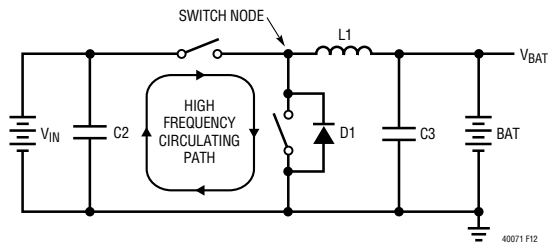

Figure 12. High Speed Switching Path
For maximum efficiency, the switch node rise and fall times should be minimized. To prevent magnetic and electrical field radiation and high frequency resonant problems, proper layout of the components connected to the IC is essential. (See Figure 12.) Here is a PCB layout priority list for proper layout. Layout the PCB using this specific order.
12. For best current programming accuracy provide a Kelvin connection from  $R_{SENSE}$  to CSP and BAT. See Figure 12 as an example.